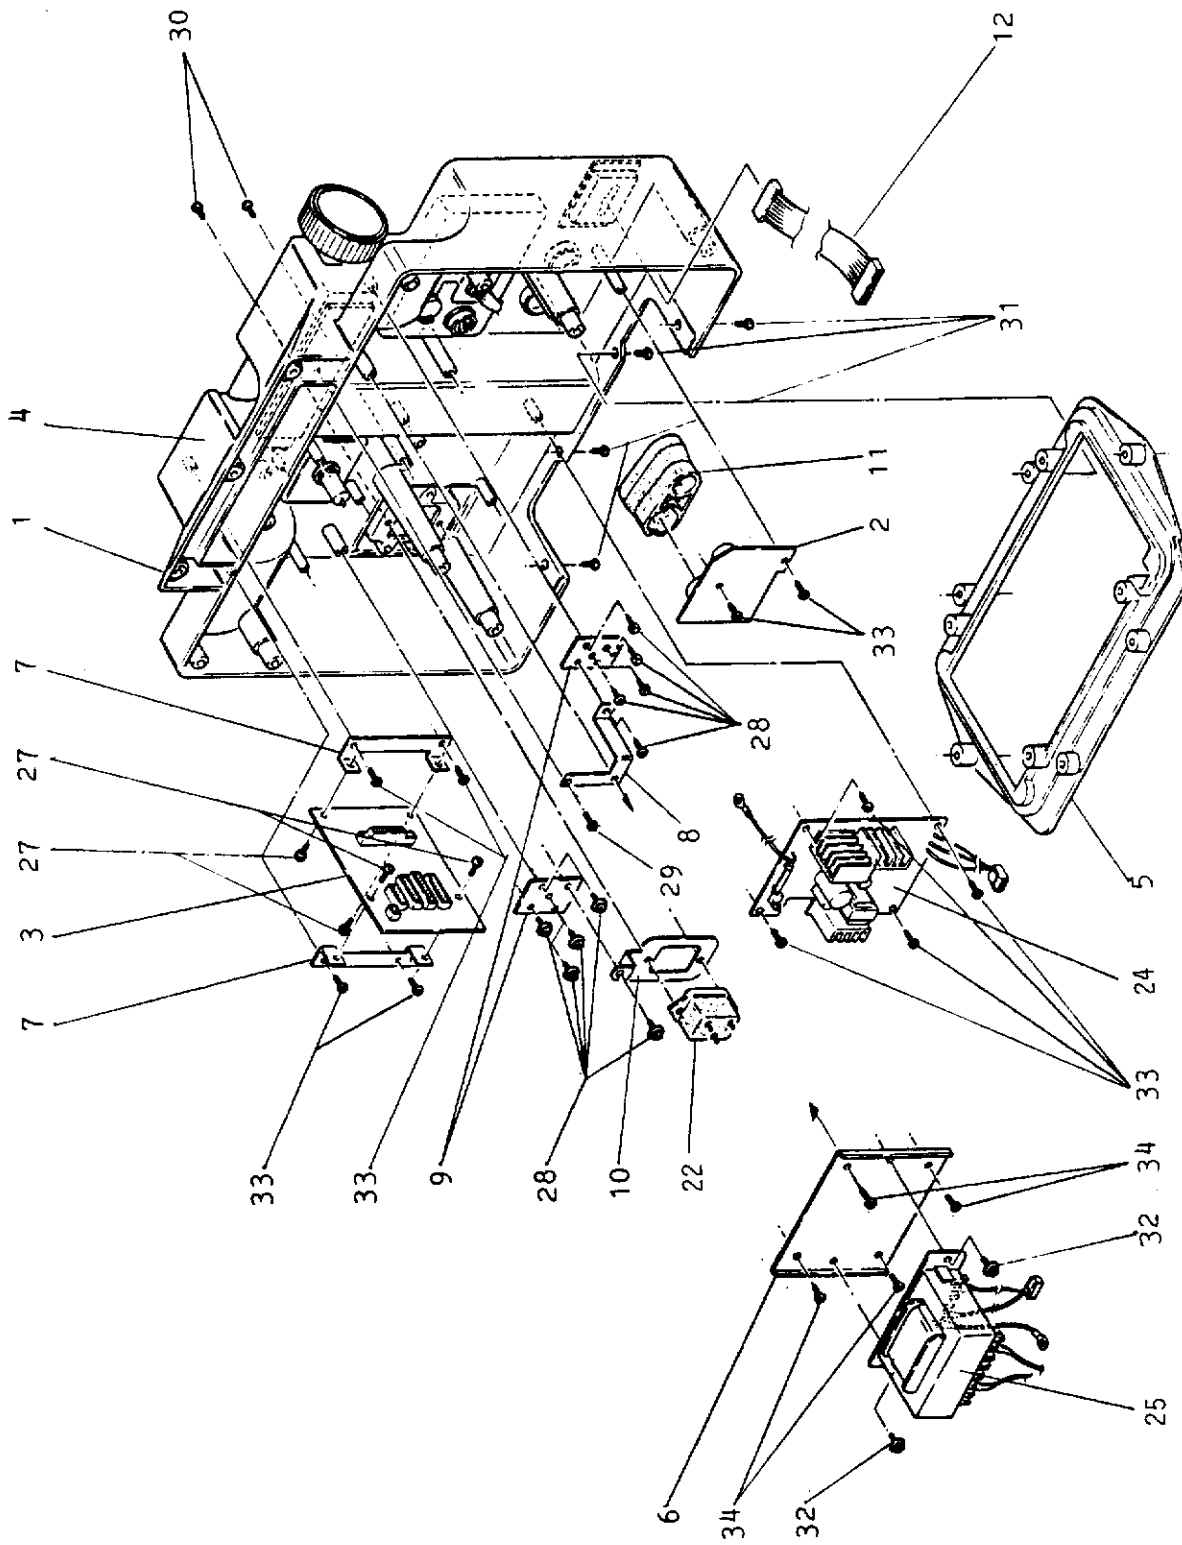

Figure 8-3. Rear Housing Assembly
**Parts list for Figure 8-3**
Note: The wire harnesses and ground wires are not shown in Figure 8-3.